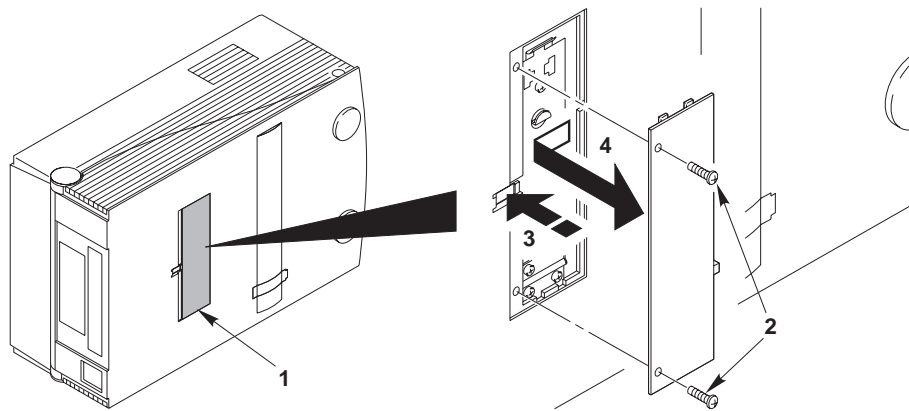

Figure 6-1. Removing Lamp Door
3. Stand the projector upright on the left side with the bottom facing you (see figure 6-1).
4. Locate the lamp access door (1) on the bottom of the projector.
5. Remove the two screws (2).
6. Push down on the lock tab (3) to release the door.
7. Slide the door open (4) and remove it.